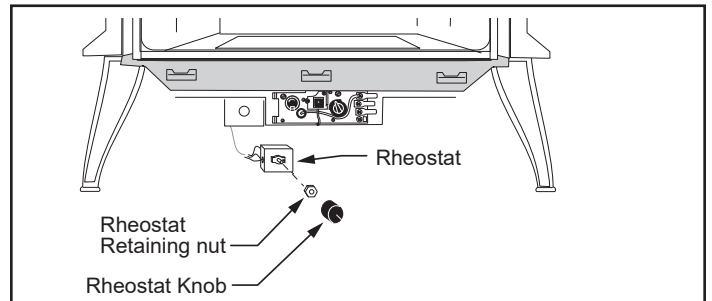

Figure 5 - Attach the fan rheostat.
5. The rheostat control switch attaches to the left side of the valve bracket at the front of the stove, Figure 5.